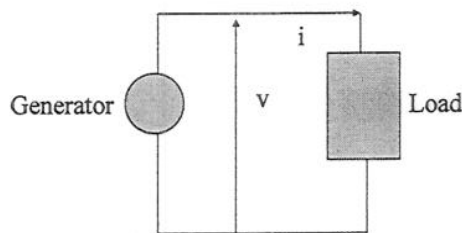

Figure Q1:. Single phase AC circuit
- (a) Consider a single phase AC circuit shown in Figure Q1. Expressions for generator voltage and current are given by: